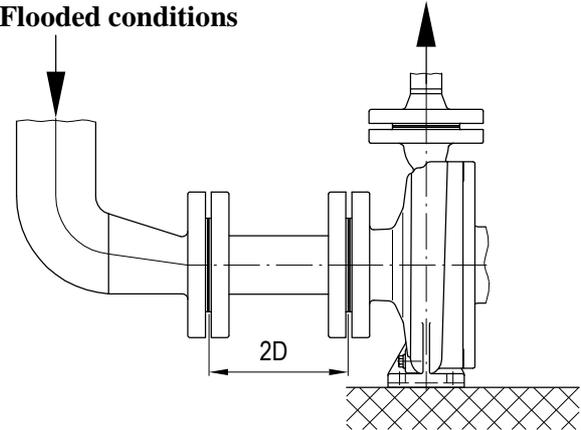

Fig. 4: Suction pipe
3. Reducers, if used, must be eccentric at pump suction flange as shown in figure 4.